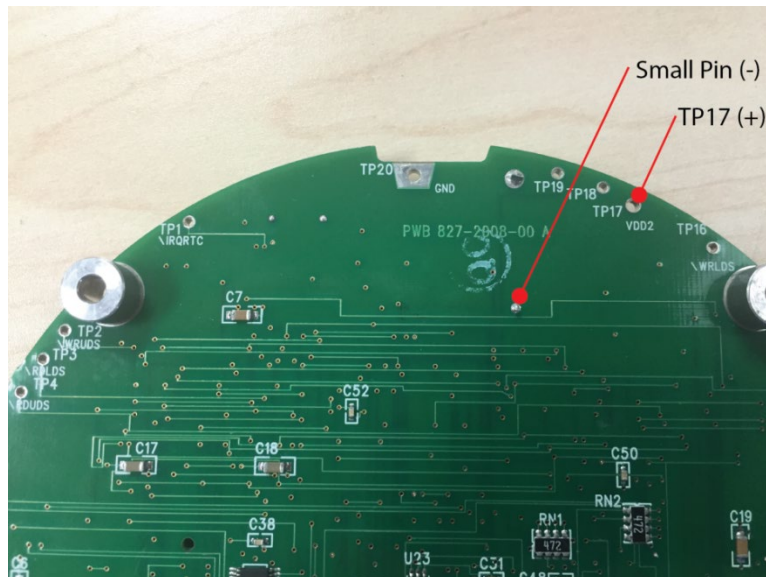

Figure 59. Lithium Battery Test Points on the CPU Board
5. Measure the voltage on the CPU board between TP17 (BAT+) and the small pin on the battery located on the back side of the CPU board (GND) (see Figure 59).